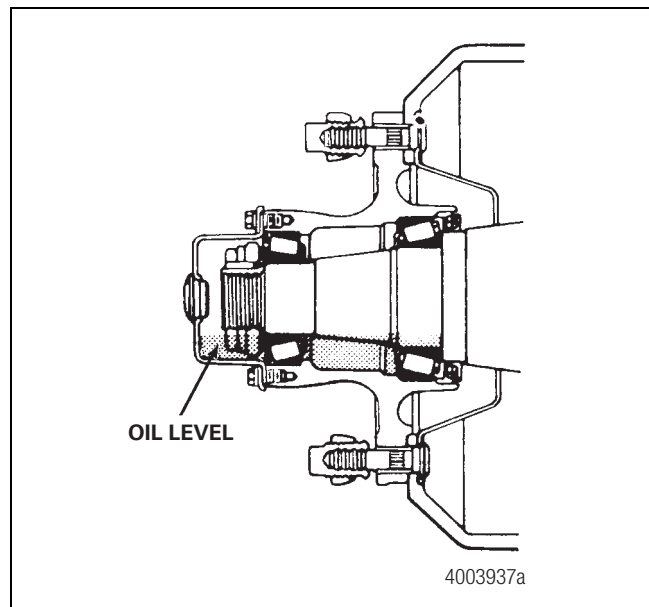

Figure 41
9. Recheck the level on the cap. If the oil level is not at the specified level on the cap, remove the fill plug. Add the specified oil until the oil is at the correct level. Figure 41.